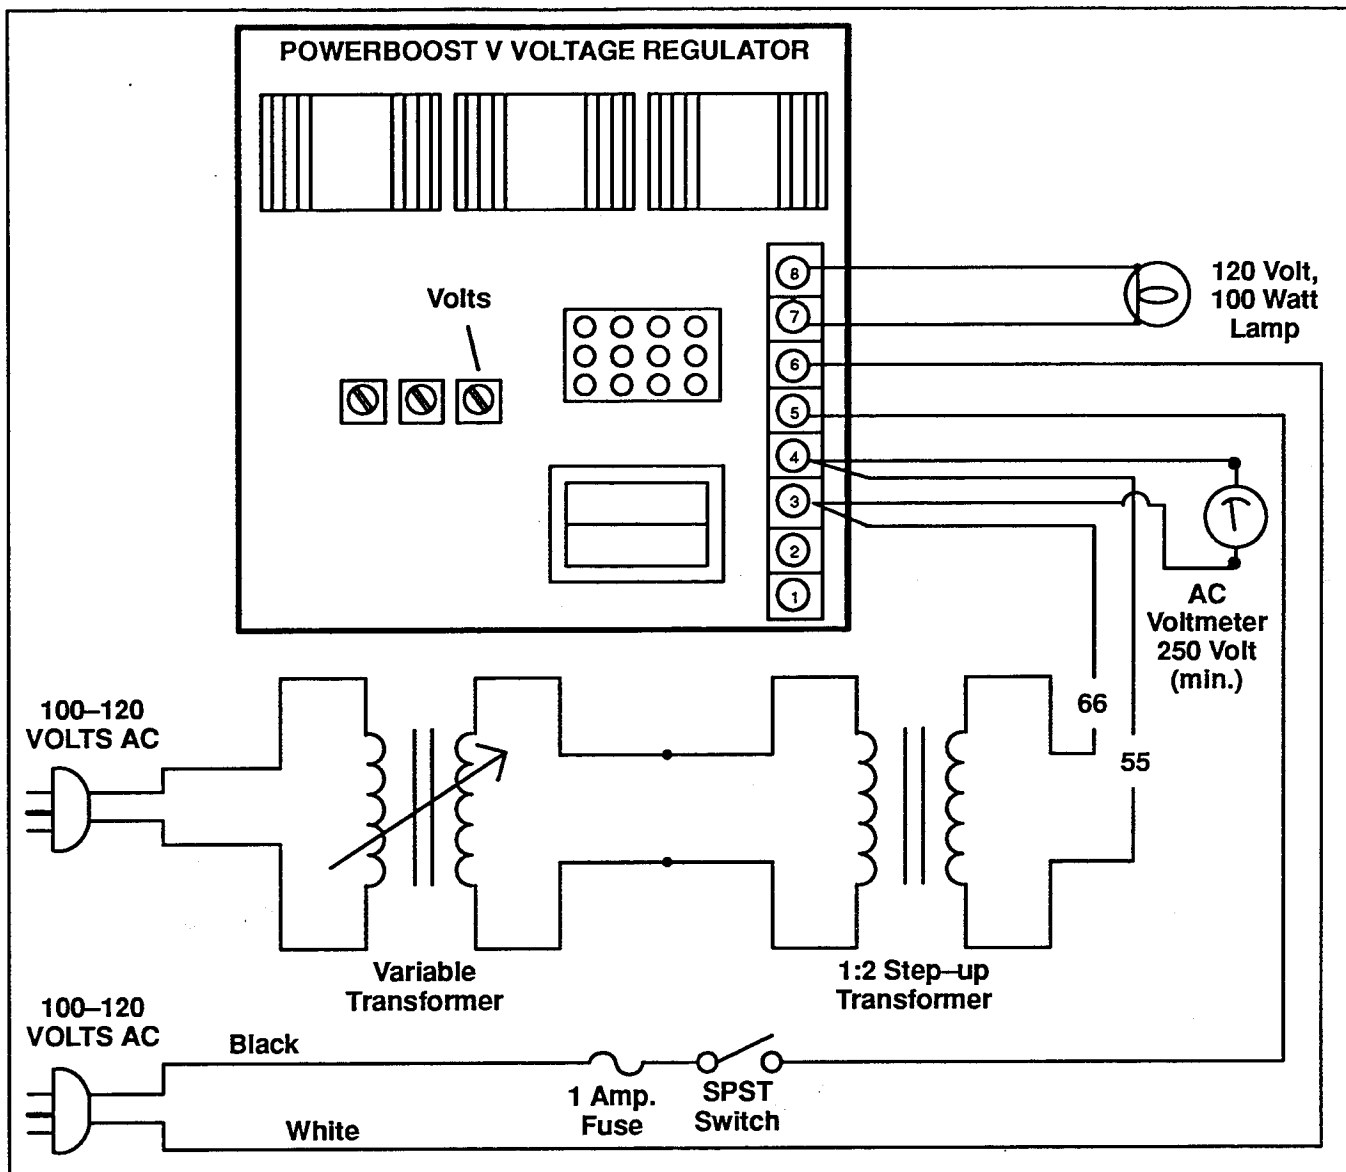

Figure 8-2. PowerBoost V Voltage Regulator Test
1. Connect components as shown in Figure 8-2.